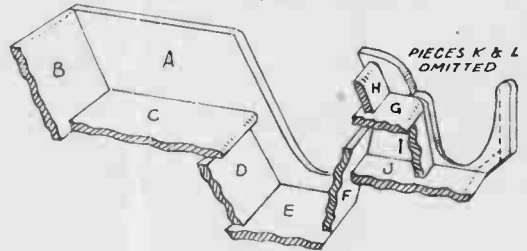

Fig. 2—Cut-away showing crosspieces lettered
Two each of the springs (M) and (N) are next cut and glued to the underside of pieces (C) and (P) respectively (see details, Figs. 2 and 3). Piece (P) forms the undercarriage beneath the driver's seat, the two little cross pieces (O) making the connection with the floor piece (J) of the carriage. The side view, Fig. 2, shows these parts plainly. The step leading into the cab is made of the two parts (Q)